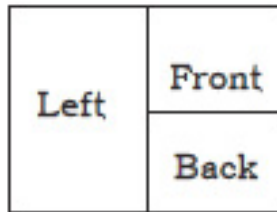

Figure 1
- 1.The viewing configuration in Figure 1. will display when the green trigger wire receives power. When the trigger wire loses power, the display will return to the previous viewing configuration.